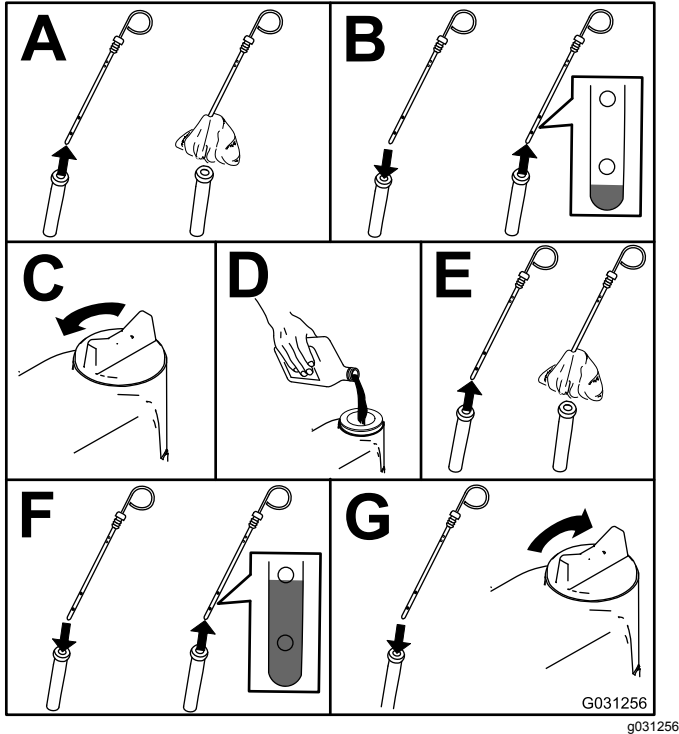

Figure 73
2. Check the engine-oil level (Figure 73).